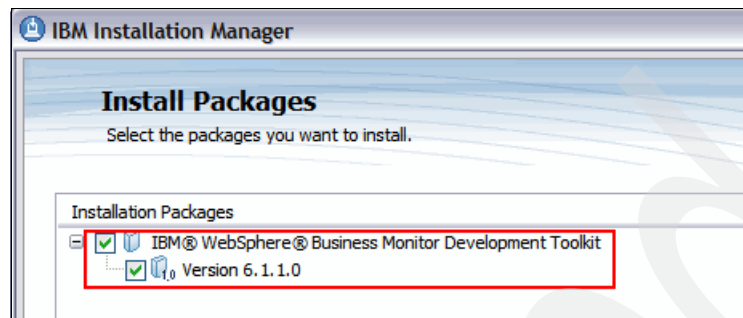

Figure 3-6 Install Packages
3. In the Install Packages panel (Figure 3-6), select the **IBM WebSphere Business Monitor Development Toolkit** and **Version 6.1.1.0** check boxes, and click **Next**.